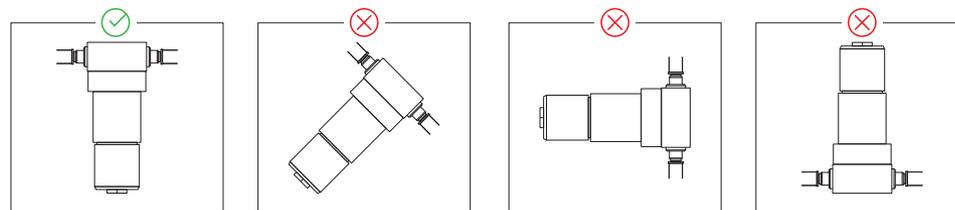

Abb. 9 - 12: Installation position water separator
3. Make sure that the filter is mounted in a vertical position. Do not install the filter upside down or at an angle (Fig. 9 - 12).